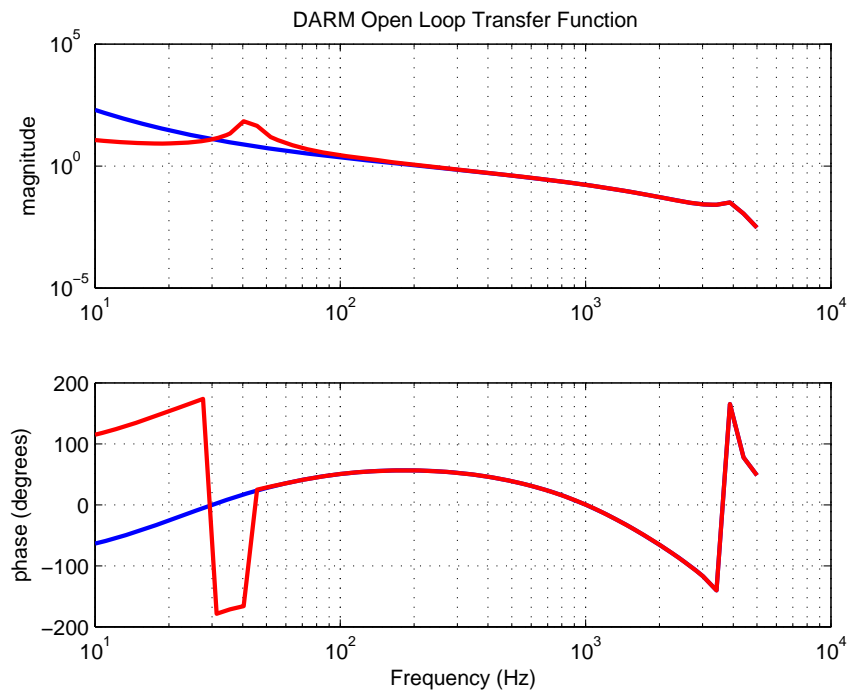

Figure 7 : DARM open loop transfer function
- The *OL_DARM.eps* figure (Fig. 7) shows the open loop transfer function of the DARM degree of freedom with and without radiation pressure; it is obtained with the data file *OL40m_DARM_NoRadPr_50_g25.dat/.dhr* where no radiation pressure is included and the data file *OL40m_DARM_RadPr_50_g25.dat/.dhr* including the radiation pressure on both ITMs and ETMs mirrors. The file *OLtf_DARM.in* has to be used to repeat the simulation.